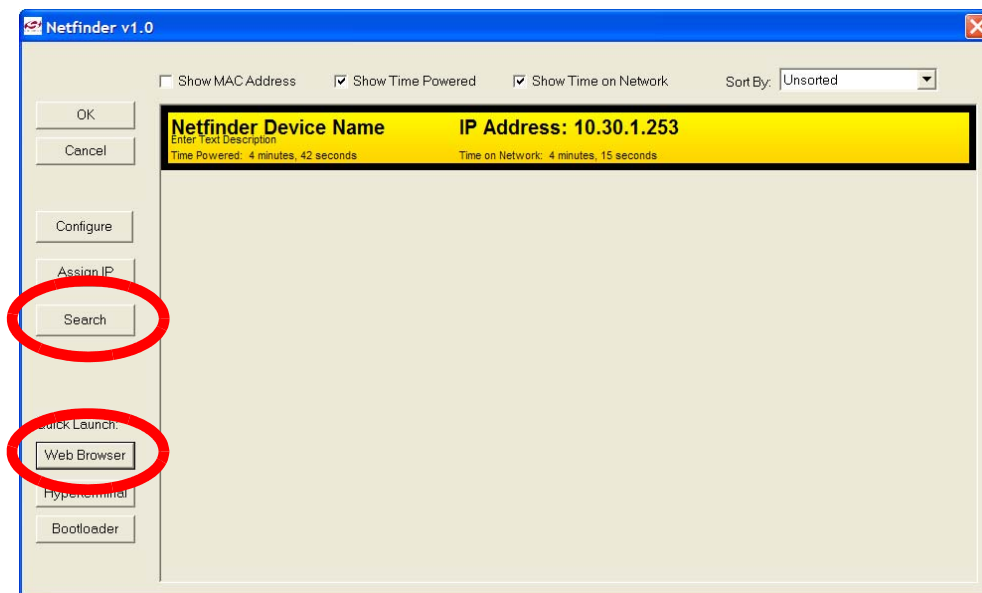

Figure 19. Web Browser Quick Launch Button In Static IP Address Mode
9. Select the device by **clicking inside the yellow area** and **pressing the Web Browser quick launch button** as shown in Figure 19.